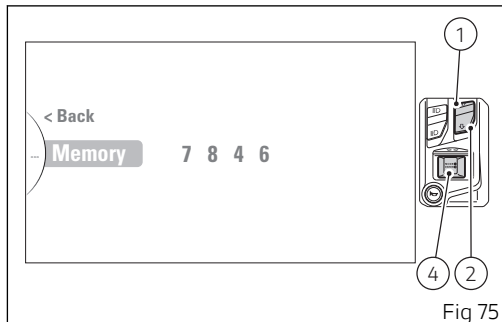

Fig 75
To memorise the entered code, highlight the "Memory" indication (orange) and press button (4) (Fig 75).